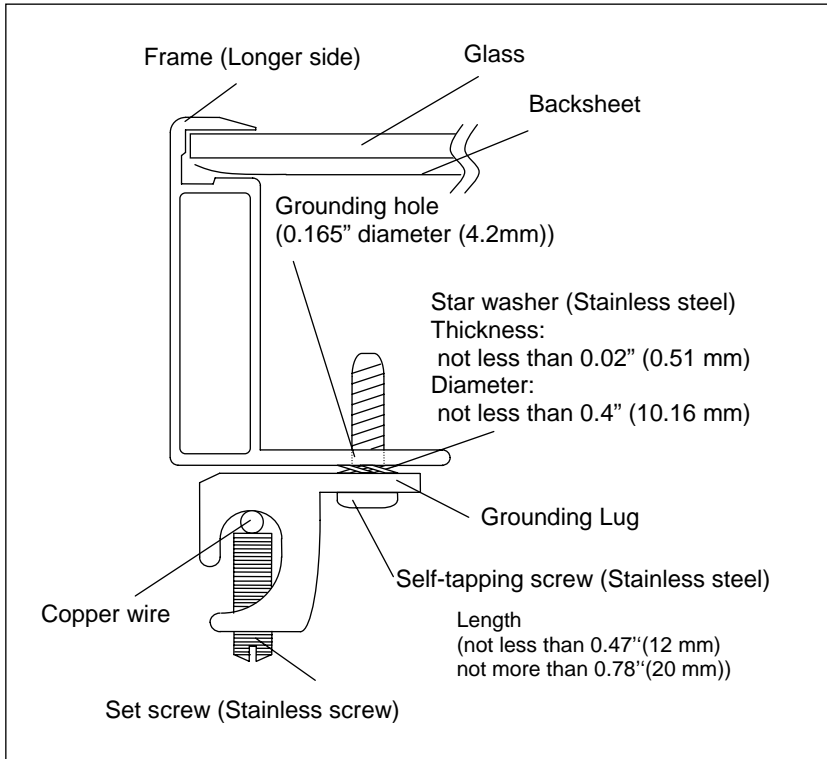

Figure 3.4
- As shown in figure 3.4, attach grounding lug to module frame using a stainless steel self tapping screw.